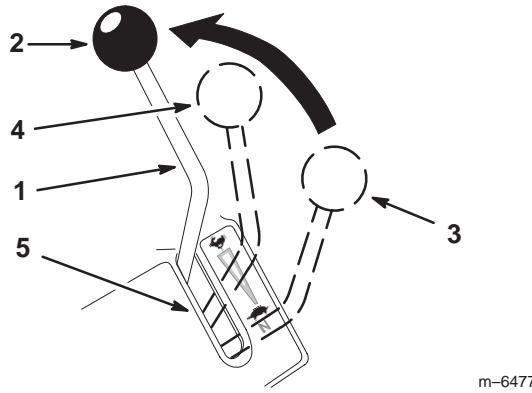
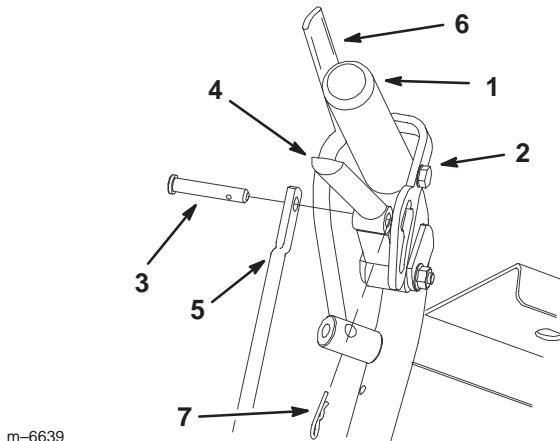
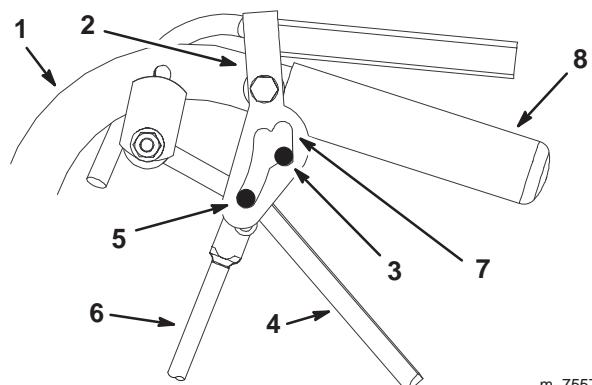

Figure 47
Figure 56
Figure 57
3. Move the speed control lever to the full forward position (Fig. 47).
9. Check the travel of the shift lever in the control panel slot. The shift lever travel should be approximately centered in the control panel slot (Fig. 47).
2. Move the speed control lever to the neutral position (Fig. 47).
4. Place the left neutral lock in the full forward position (Fig. 57) and move the speed control lever to the neutral position (Fig. 47).
1. With the machine on jack stands, place the speed control lever in the neutral position (Fig. 47).
2. Place the right drive lever in the full forward position (Fig. 57).
5. Squeeze one drive lever until an **increased** resistance is felt (Fig. 57). **This is neutral position.** This is where the clevis pin in the yoke comes to the back end of the slot in the control arm bracket.
Note: Make sure you have not reached the end of the neutral lock slot (Fig. 57). If you have, shorten the control rod. Refer to Adjusting the Control Rod on page 41.
10. Release the drive lever to the forward drive position and squeeze back into the neutral position (Fig. 57). Check to see if the wheel stops. If not, repeat steps 8 and 9.
1. Adjust the rod length by releasing the drive lever and removing the hairpin cotter pin and clevis pin (Fig. 56). Rotate the rod in the rod fitting (Fig. 57).
4. Place the clevis pin into the drive lever (Fig. 56).
6. Install hairpin cotter between drive levers and neutral locks and into clevis pins (Fig. 56).